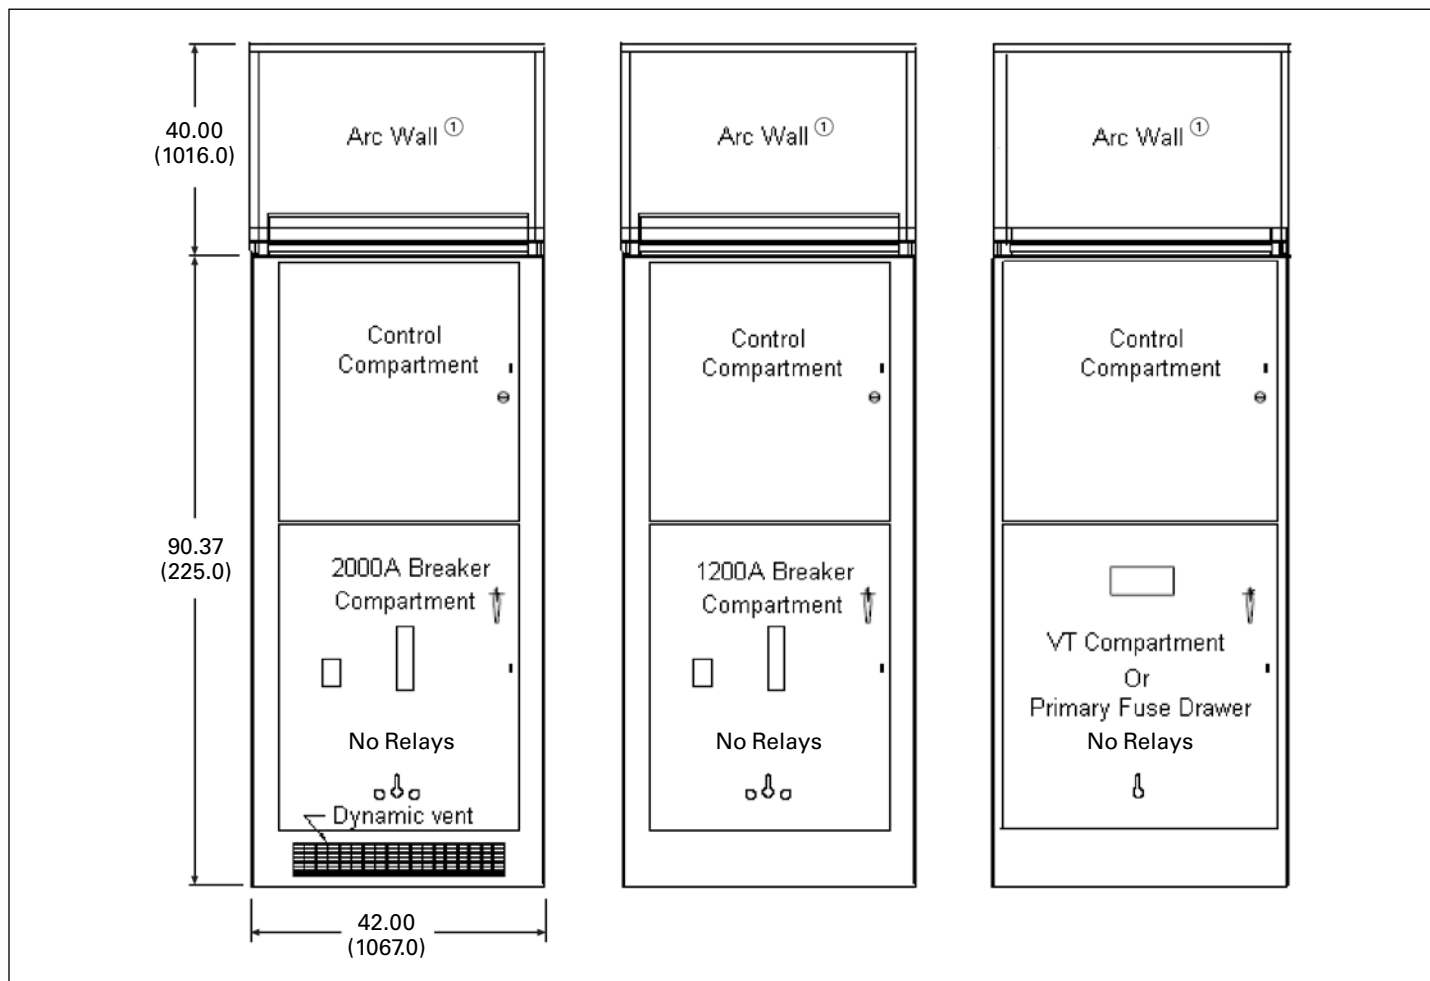

Figure 5.5-13. Available Arc-Resistant Switchgear Configurations (Front Views)—27 kV
3. Refer to **Figure 5.5-13** to **Figure 5.5-15** for dimensions.